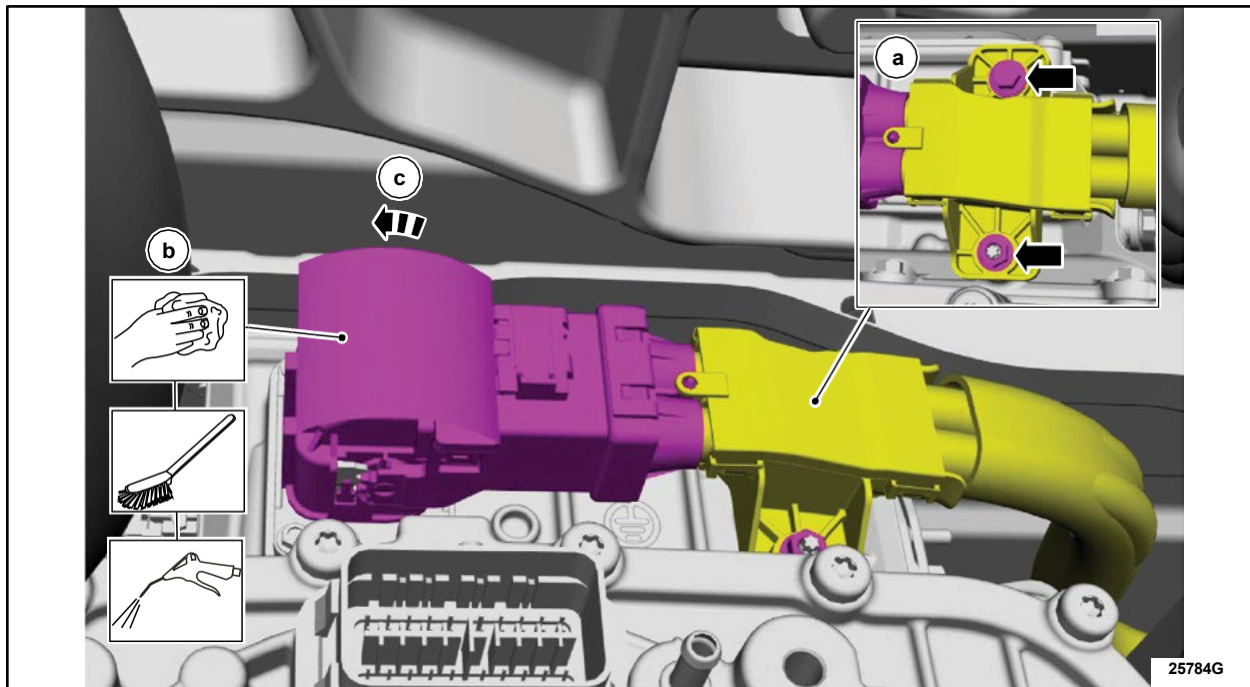

FIGURE 11
15. Disconnect the high voltage electrical connector. See Figure 11.